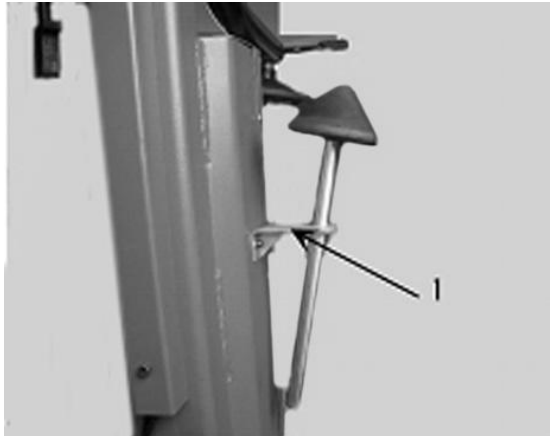

Fig42
6.1.9 As fig42, fix the cone support on the body bracket and install the press cone on the bracket.